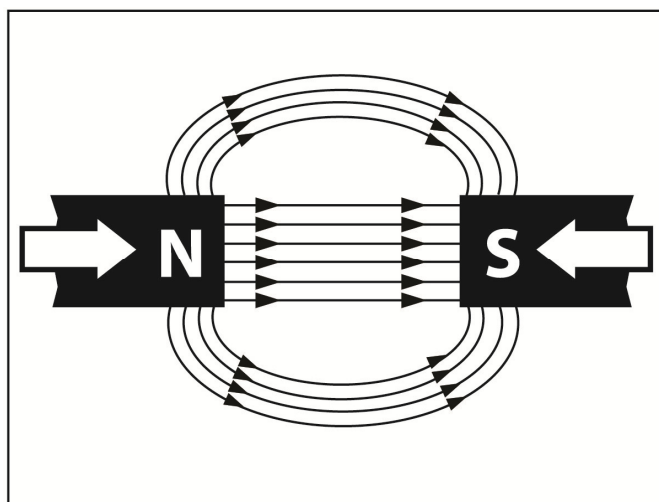

Fig. 6.7
- Flux lines tend to form the smallest possible loops. This explains why unlike poles attract. Lines, which have opposite polarity, can link up. Then the loops attempt to shorten by pulling the two magnets together. This is shown in Figure 6.7.